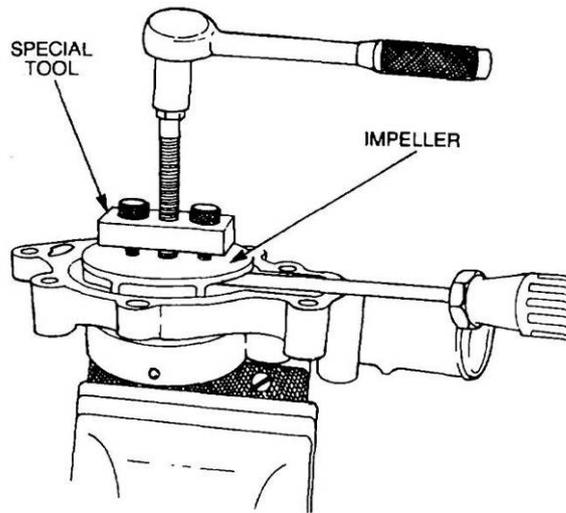

Figure 61 Removal of the Water Pump Impeller
- Using special tool 9-8521-0097-0, remove the impeller from the pump shaft (Figure 61).